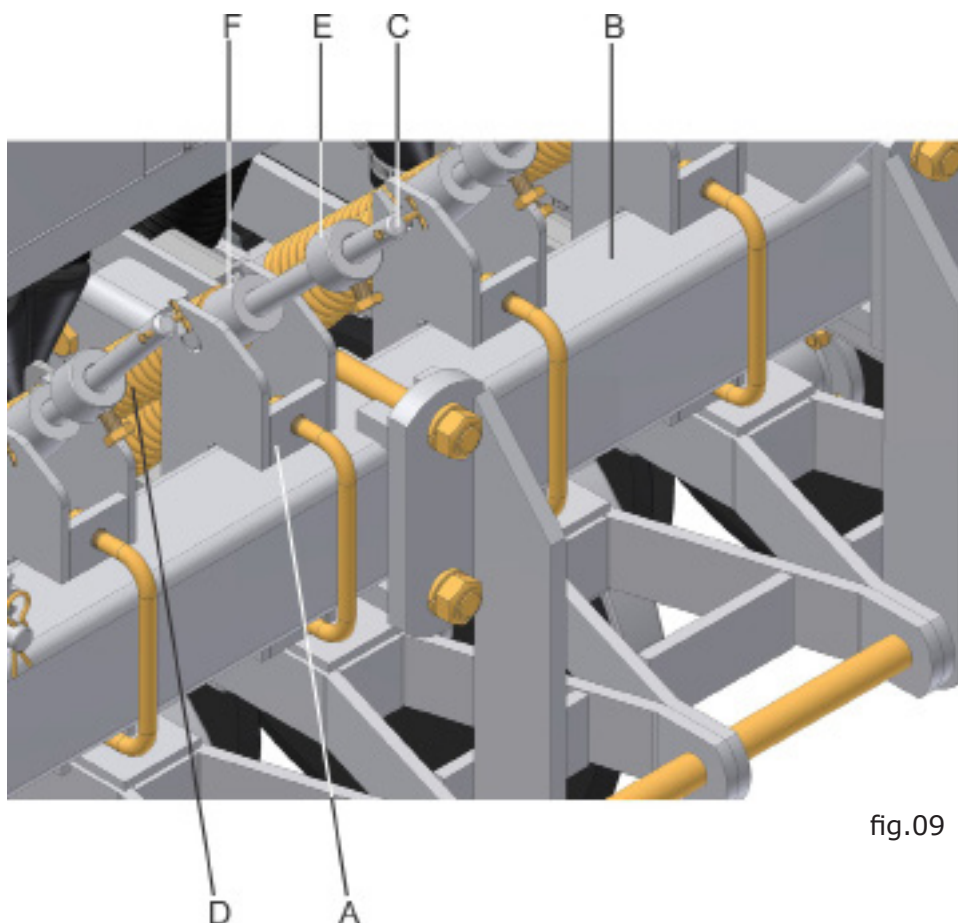

fig.09
- 1- Assemble the articulators of the lines (A) (fig. 09) on the rear tube of chassis, letting them tighten lightly.
- 2- With the seeder lifted on the trestles put the rods (C) with the springs (D) in the articulator hole (F) and after attached the rods on the furrower line through of the screws and nuts.
- 4- Remove the trestles and low the seeder until the soil. Do final retight all components, attach the bushings (E), and put the stop pins in the upper hole of the rods.